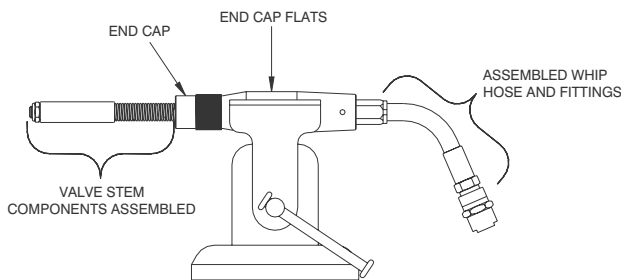

Figure 8-9. Place Tail Assembly in Vise.
2. Place the End Cap (16) horizontally in a vise or saddle clamp as shown in Figure 8-9.